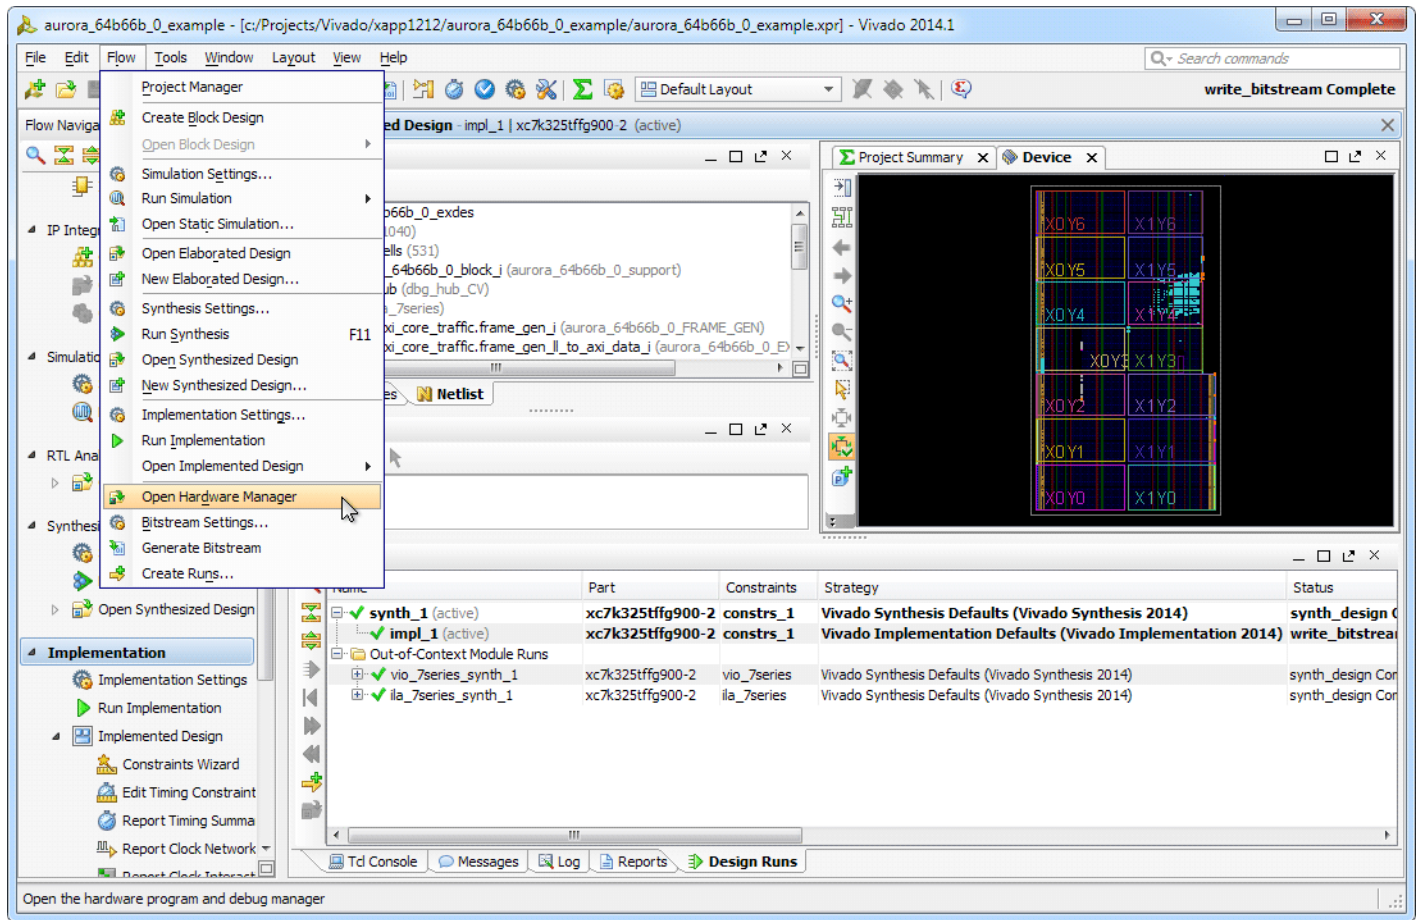

Figure 15: Open Hardware Manager
1. On completion of bitstream generation, select **Flow > Open Hardware Manager** (Figure 15).